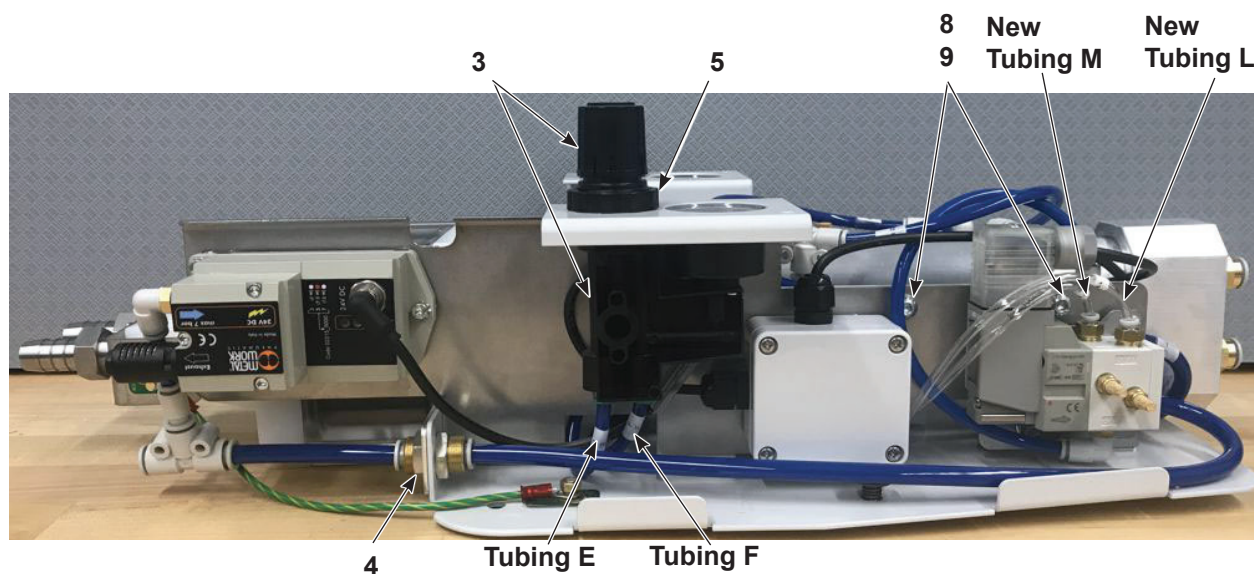
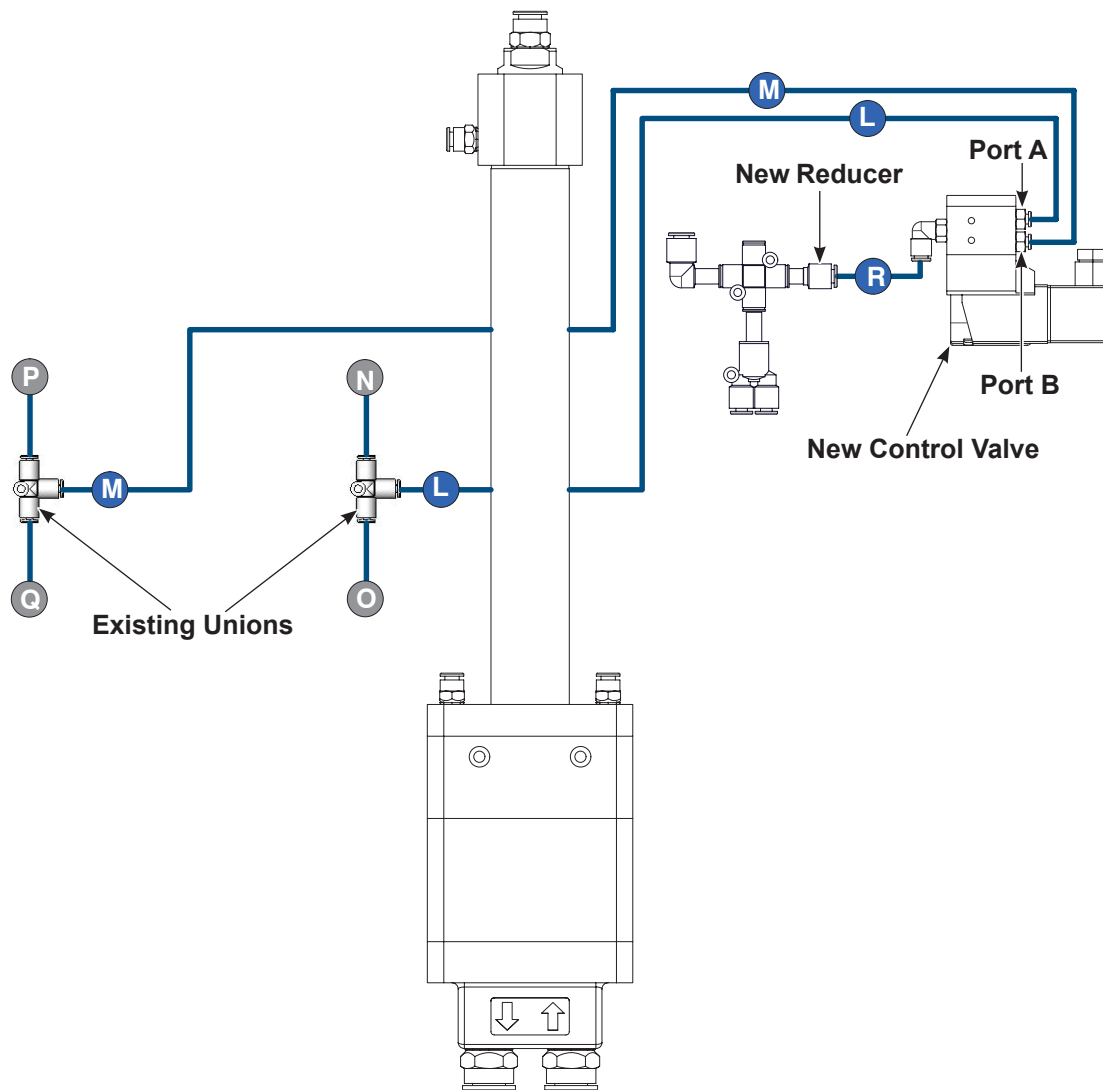

Figure 4 Installing Timing Valve Kit
Figure 6 New Tube Routing
9. See Figure 4. Tilt and slide the timing valve upgrade kit into position along existing bracket. Complete the following for proper placement of the timing valve kit:
10. Install the two M6 x 10 button screws (8) and split washers (9) to secure the timing valve kit to the existing bracket.
11. Reinstall the bulkhead fitting nut (4).
12. Reinstall the 60 psi regulator/gauge (3) with the plastic nut (5). Reconnect tubing E and F to the regulator.
15. See Figure 6. Take new R tubing and install from new reducer to new control valve.
16. See Figure 4 and Figure 6. Install new L and M tubing, routing the tubing behind the pump housing to connect existing unions to the ports on new control valve.